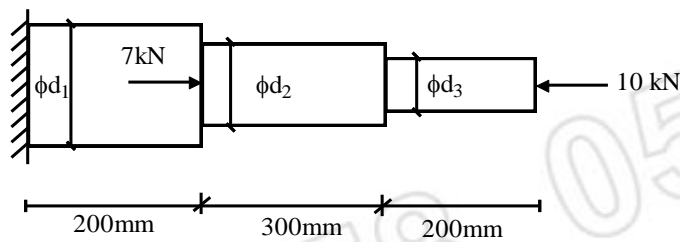

Fig. 1(c)
- c) For the step shaft shown in the figure 1 (c) calculate the following : **13**